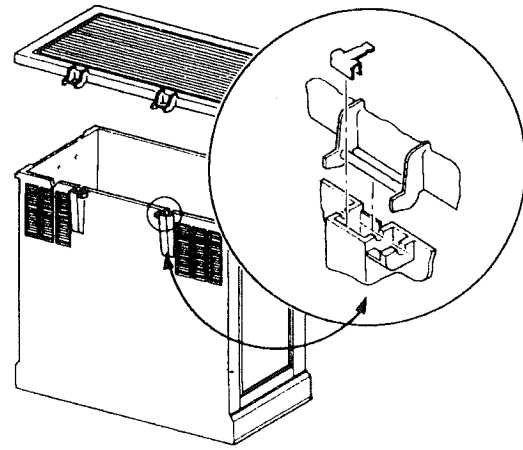

Figure 5
2. Position lid over housing with hinges facing rear of unit. (See Fig. 5)